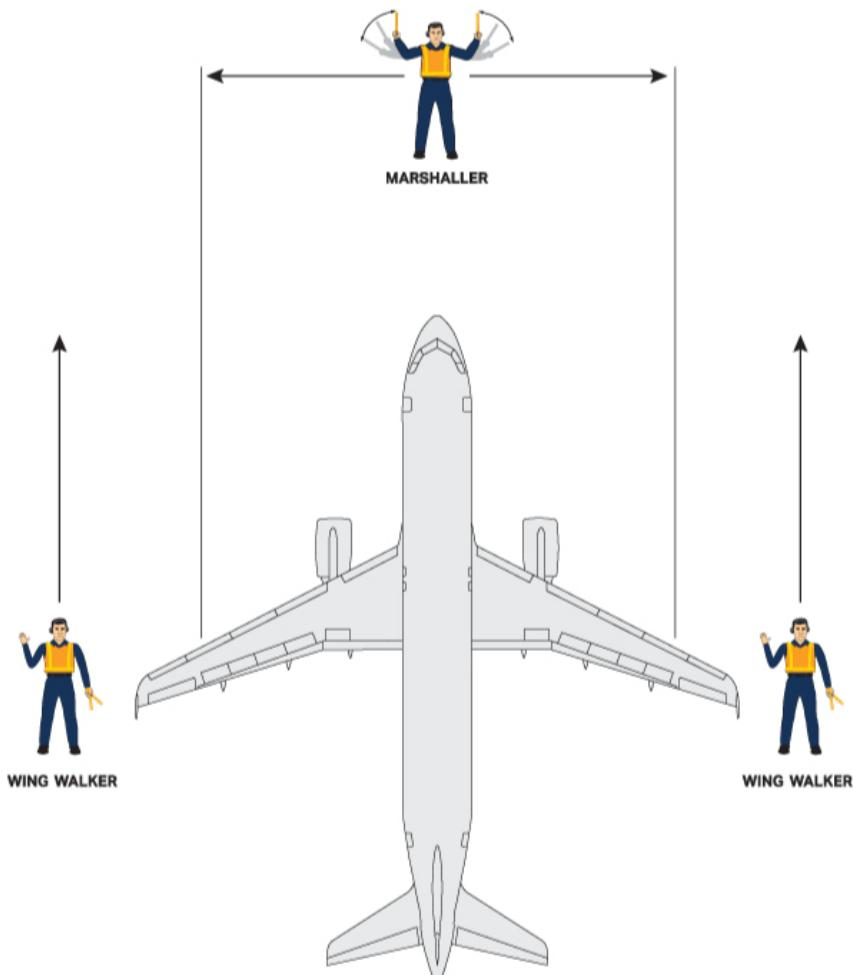

Figure 4.1.2 - Wing Walker Positioning for Aircraft Arrival
4. Wing walkers, if required, will be positioned approximately 1 m (3 ft) outside the path of the wingtips. Wingwalkers shall maintain visual contact with the marshaller until the aircraft has come to a complete stop. See diagram in Figure 4.1.2 for positioning of wing walker during aircraft arrival on stand.